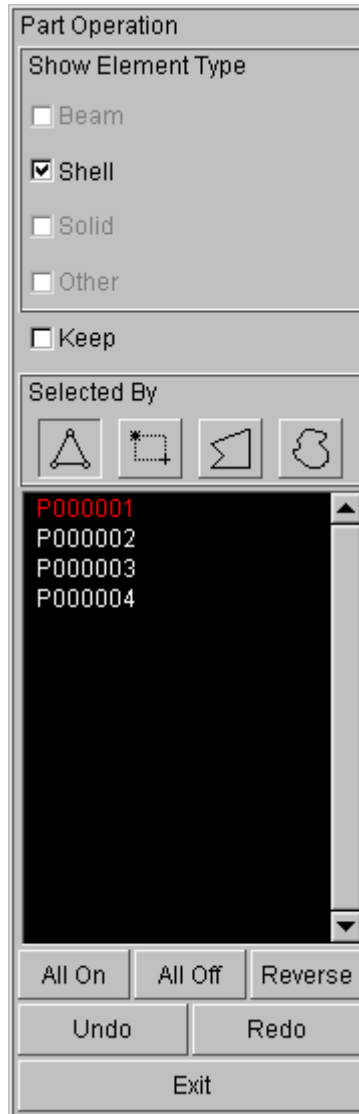

Figure 152: Part turn on/off dialog box
4. In Part Operation dialog, use your mouse cursor to click on all the parts, excluding BLANK, as illustrated in Figure 152. All the tools are hidden from the display area. Then, press **Exit** button to dismiss the dialog box.